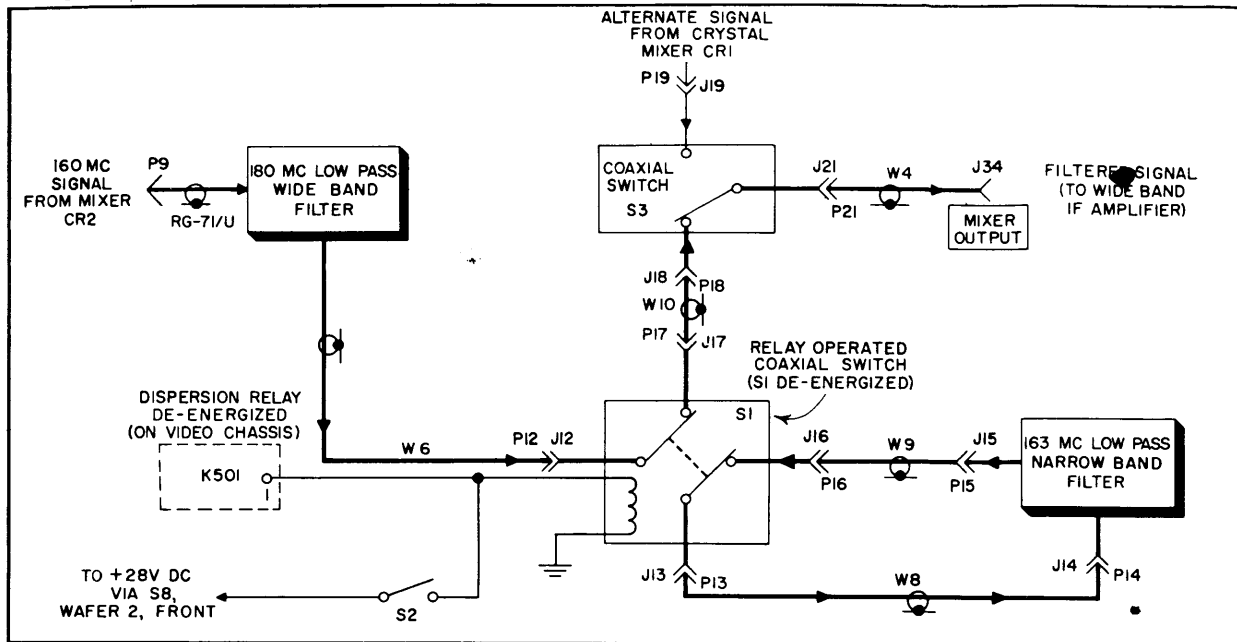

Figure 4-5. R-f Tuning Unit Relay Circuits, 55-2120 Mc Operation, with Relay S1 De-energized
(See figures 4-5 and 4-6.)
a. The wide-band low pass filter is nominally tuned to 180 mc and is connected to the output of crystal mixer CR2. (See figure 4-5.) The signal from the output of CR2 is coupled by way of mating connectors J9 and P9 to the input of the 180 mc filter. This filter serves to attenuate spurious signals (developed in crystal mixer CR2) and extraneous oscillator signals from passing through to the i-f amplifiers. At the same time, the desired i-f frequency, centered at 160 mc, is allowed to pass with little attenuation.
4-18. R-F TUNING UNIT SWITCHING CIRCUITRY. (See figures 4-5, 4-6 and 7-1.)